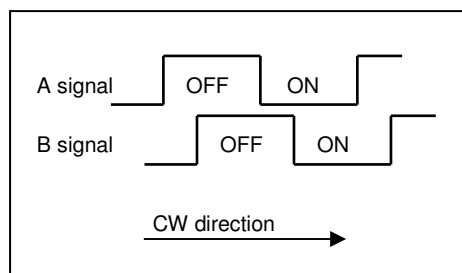

Figure 7
- Output: A and B signals proportionate to phase difference (see Figure 7)